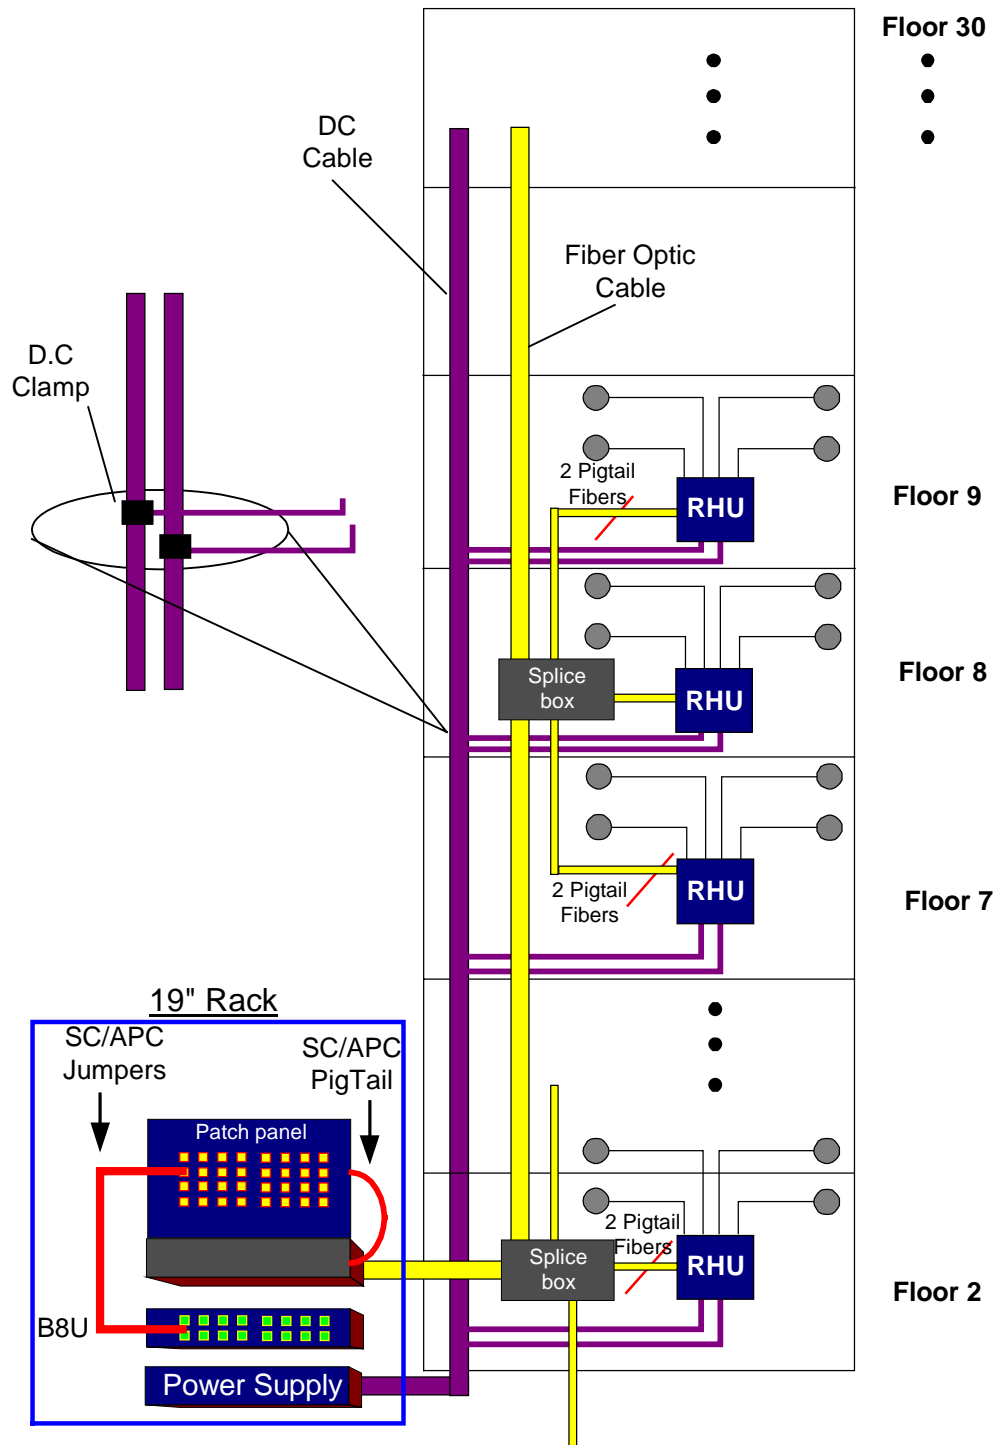

Figure 2-1- Fiber Optic and Power Cables Routing Example
1. Install splice box near RHU (refer to Figure 2-1).